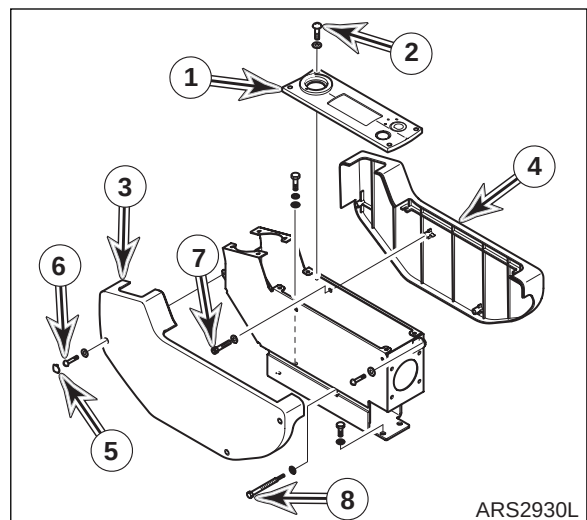

Figure 6
12. Remove four bolts and washer (2, Figure 6), and cover (2).
13. Pull cap (5, Figure 6) out and remove screw, three bolts and washers (6) and cover (3).
14. Remove two screws, two bolts and washers (7 and 8, Figure 6) and cover (4).